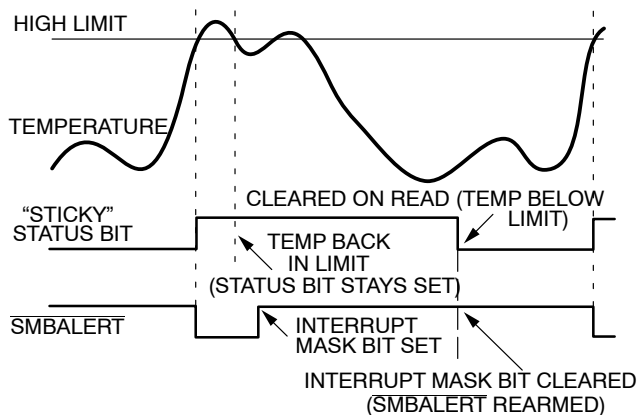

Figure 28. Effect of Masking the Interrupt Source on SMBALERT Output
7. Periodically poll the status registers. If the interrupt status bit has cleared, reset the corresponding interrupt mask bit to 0. This causes the SMBALERT output and status bits to behave as shown in Figure 28.